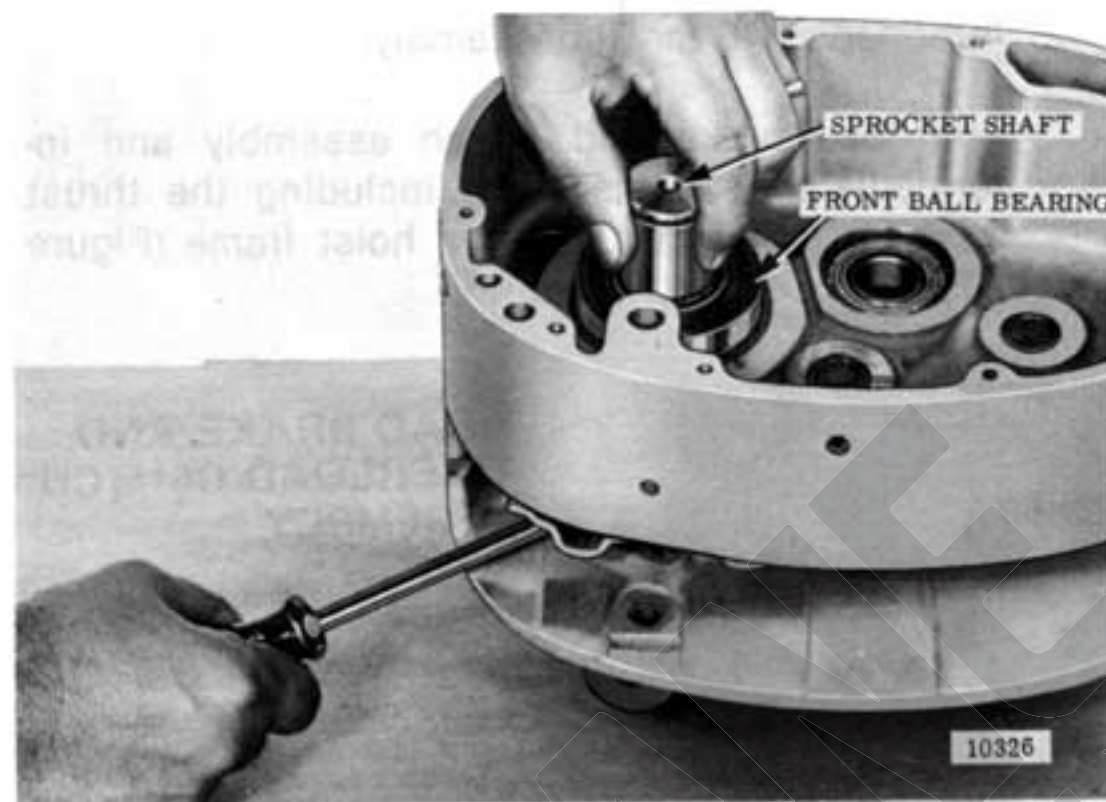
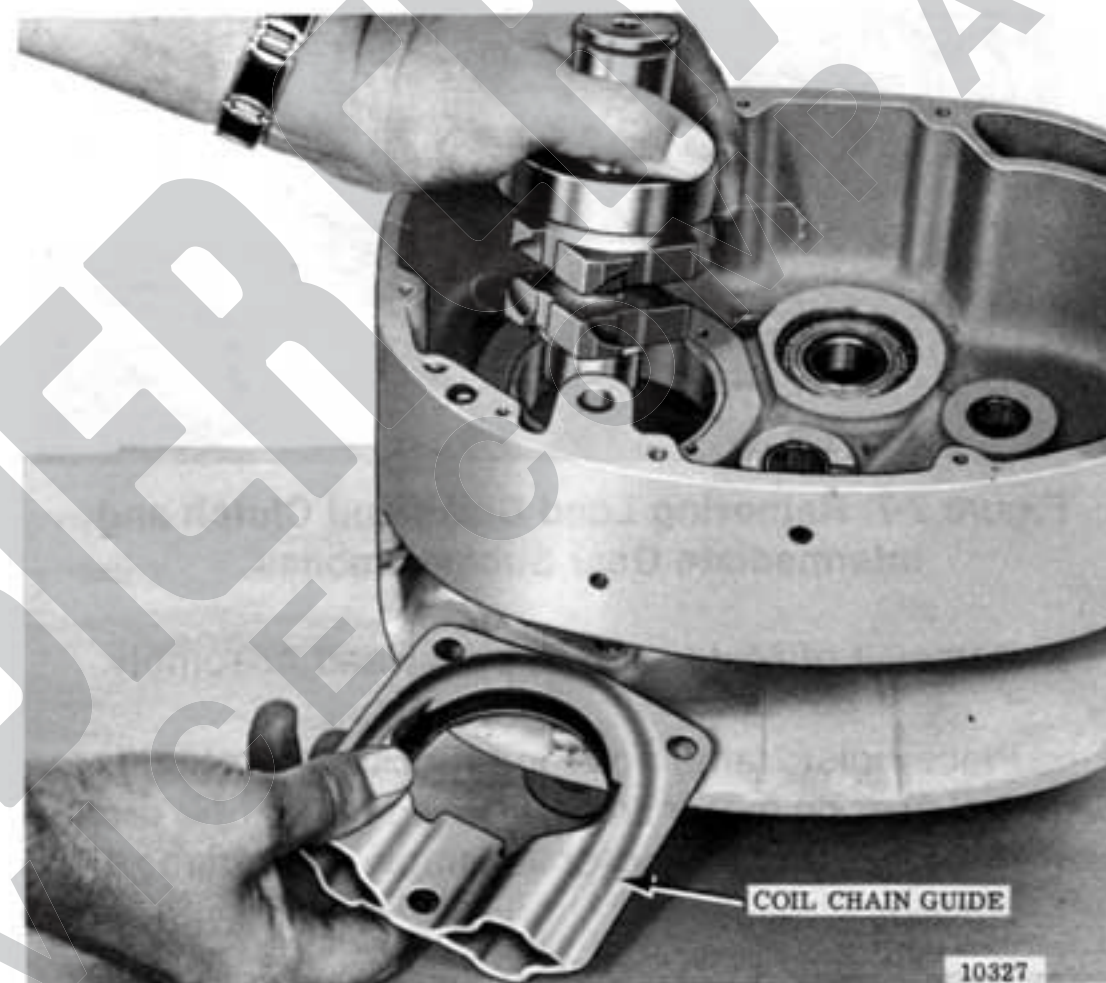

Figure 7-13. Removing Sprocket Shaft and Front Bearing.
Figure 7-14. Chain Guide Being Removed From Frame as Sprocket Shaft is Lifted Out.
- (4) Remove sprocket shaft and front ball bearing assembly from frame by lifting up on end of shaft while prying up on sprocket as illustrated in Figure 7-13. The chain guide will need to be repositioned in frame as sprocket shaft is raised to allow the sprocket to pass through hole of guide (Figure 7-14).